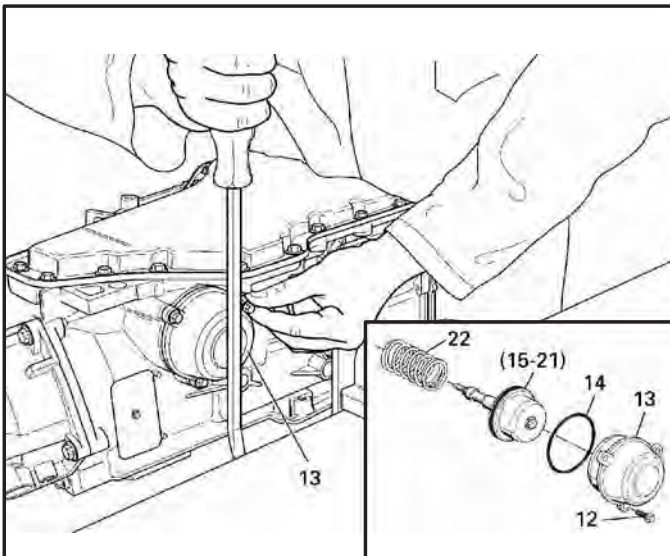

Figure 41
15. Apply pressure to the servo cover using the snap-ring screwdriver with its end against the edge of bench, as shown in Figure 41.
16. With pressure applied, use your free hand to completely remove the bolts, and slowly relieve the pressure and remove the forward servo assembly (See Figure 41).